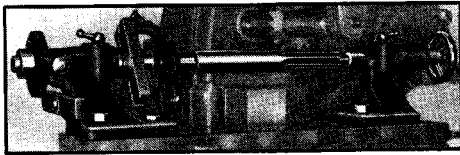

Fig. 21
2. **SIDE MILLING:** In side milling, the sides of the cutter cut as well as the face. Therefore, the cutter is similar in design to the plain milling cutter except for the additional teeth on the side. This cutter is used for such operations as slotting, grooving, cutting keyways, etc. (See Fig. 21.)